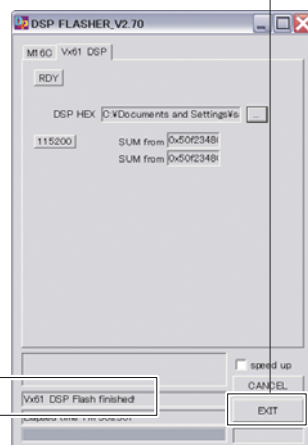

Fig. 8
7. Click [EXIT] to end DSP_FLASHER_v2.7.exe. (Fig. 8)